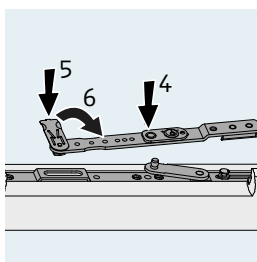

Figure 4
4. Turn the locking cam/disc at the top of the sash (figure 4).
5. Lift the locking cam/disc and separate the pivot hinge joint (figure 4).
3. Lift the sash off the bottom fitting (figures 4 & 5).